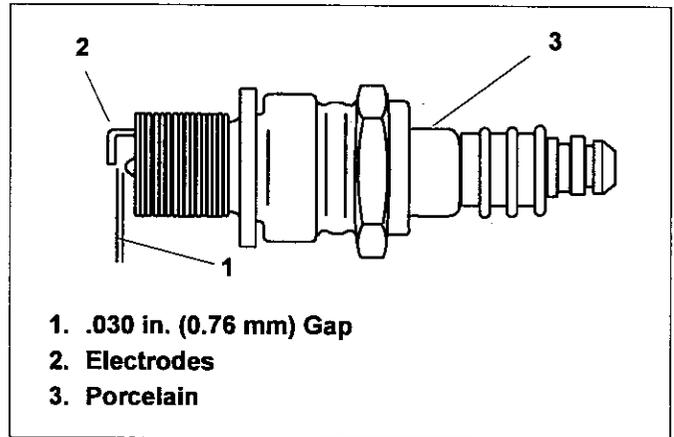

Figure 20. Resistor Spark Plug
4. Check electrode gap with wire feeler gauge and set gap to .030 (0.76mm) if necessary. See Figure 20.